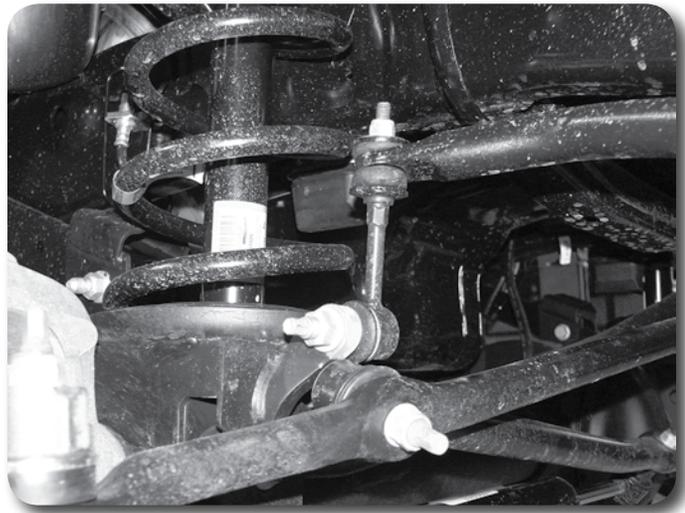

Figure 1
4. Disconnect the driver's and passenger's side sway bar links from the sway bar **Figure 1**. Save link hardware.